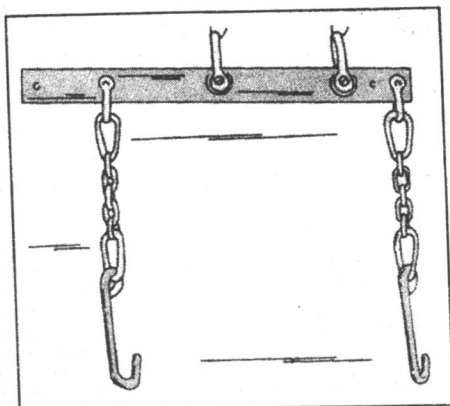

Fig. 1.1. — Lifting bracket for the removal and installation of engine and transmission.
The engine and transmission is removed from the car as a complete unit, i.e. a substantial lifting device must be available to lift the assembly from the vehicle. The workshop uses a special lifting bracket of the shape shown in Fig. 1.1 which is "hooked" into the lifting brackets at the top of the cylinder head. Where no lifting brackets are fitted to the cylinder head, you will have to improvise again and make-up some brackets. Pay special attention to the construction of any lifting brackets used. Accidents must be avoided under all circumstances when engine and transmission are lifted out of the vehicle. Some operations are not explained in detail in the following instructions, as there will be differences within the various manufacturers. To remove the engine and transmission, proceed as follows, but note that the instructions are given in general for all models, but additional operations may have to be carried out as applicable, as it is not possible to refer to all models.
- Attach the lifting device shown in Fig. 1.1 or a similar arrangement to the two lifting brackets, using suitable chains and suspend the complete assembly onto a lifting tackle or hand crane. Lift the assembly until the engine/transmission mountings are under tension.